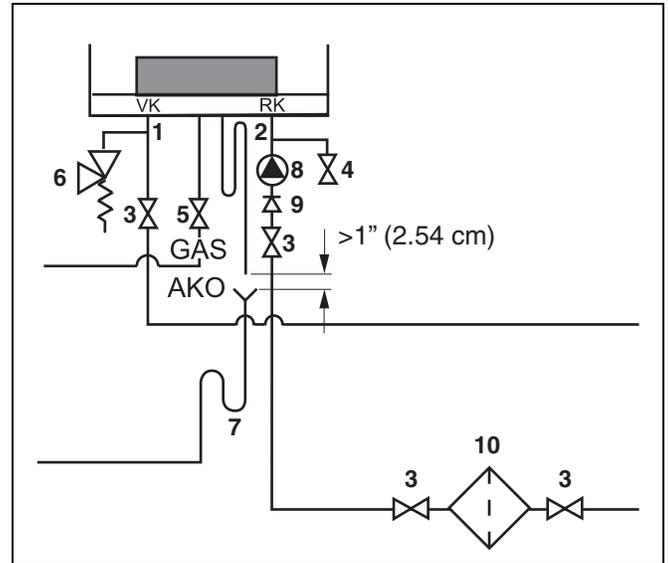

Fig. 12 Connecting the boiler supply and return
To prevent contamination in the heating system we recommend you integrate a dirt filter (fig. 12, pos. 10) in the return pipe, near the boiler. In an old system it is a requirement to install a dirt filter. Also install shutoff valves to enable filter cleaning immediately upstream and downstream of the dirt filter (scale cartridge or y-strainer).
- Connect the supply pipe with a flat rubber seal installed to the Supply connection (fig. 12, pos. 1) making sure it is not under stress. Use a supply pipe with a minimum diameter of 1½" (38 mm).
- Connect the return pipe with a flat rubber seal installed to the Return connection (fig. 12, pos. 2) making sure it is not under stress. Use a return pipe with a minimum diameter of 1½" (38 mm).
- Install the pump (fig. 12, pos. 8) in the return circuit (fig. 12, pos. 2).